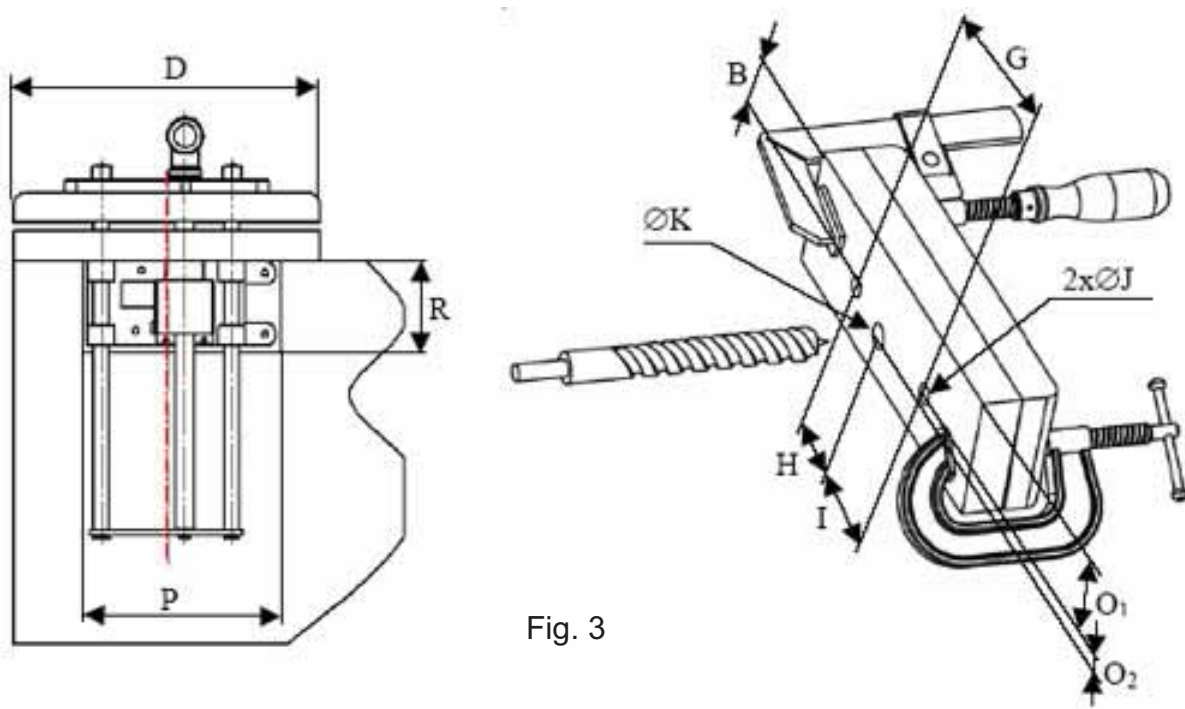

Fig. 3
It is important to note that vice HVQ516 is not axially symmetrical. This must be taken into account when measuring and making openings "ØJ" and "ØK" at distances "O1", "O2", "G", "H", "I" see. Tab. 1. Now measure out the openings for the spindle (3) and guide rods (6) onto the front and rear additional jaw, and bench collar, if applicable. To make work easier it is possible to drill the front and rear jaws together by clamping them using a C-shaped brace or clamp – see Fig. 3.
Preparation of spacer according to dimensions **E**, **P** and **R** – see Fig. 3 and Tab. 2